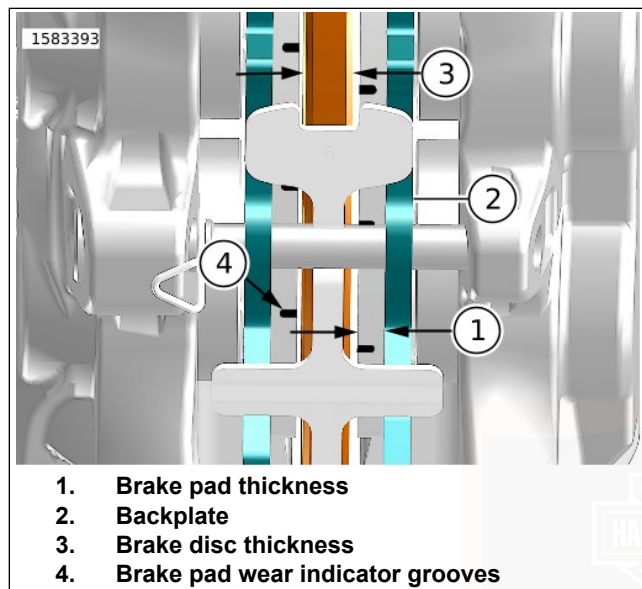

Figure 47. Brake Thickness (front shown)
2. See Figure 47. Measure the thickness of the brake pad friction material.